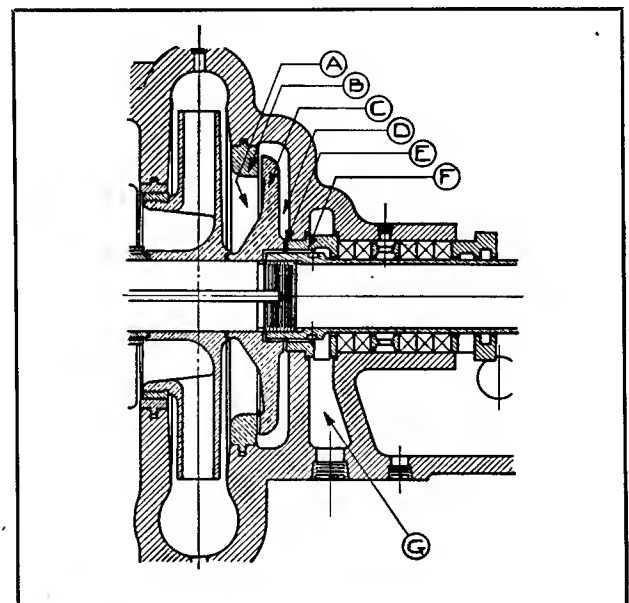

Fig. 18 — Double action balance disc.
C. DOUBLE ACTING BALANCING DISC USED WITH TYPE "ST" PUMPS (Fig. 18)